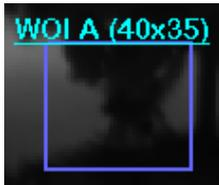

Figure 5-44 Window of interest
- Select the window of interest region () – Allows to drag one, or multiple rectangular windows of interest (depending on camera support) as shown in Figure 5-44.